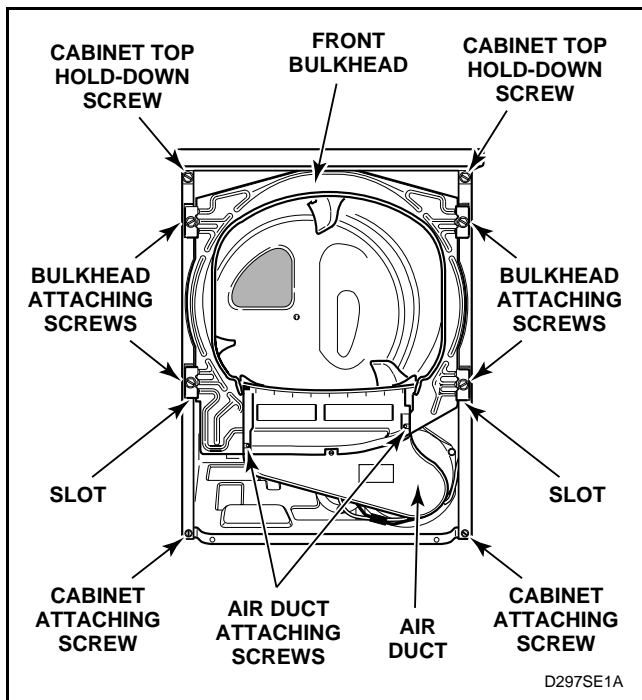

Figure 25
- Remove four screws holding bulkhead to front flange of cabinet and lift complete bulkhead assembly out of slots in cabinet. See *Figure 25*.
- f. Remove four screws holding bulkhead to front flange of cabinet. Then, lift complete bulkhead assembly out of slots in cabinet. See *Figure 25*.
- Remove four screws holding bulkhead to front flange of cabinet. Then lift complete bulkhead assembly out of slots in cabinet. See *Figure 25*.
- Remove two cabinet top hold-down screws. See *Figure 25*.